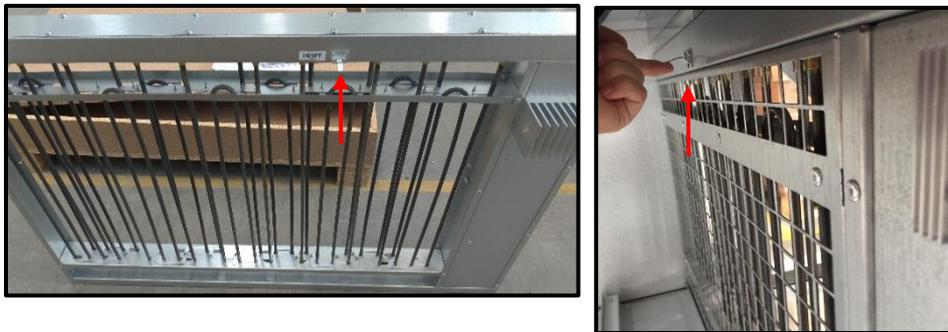

Fig. 67
2. For a manual RESET, push the reset lever upward. (Fig. 67)